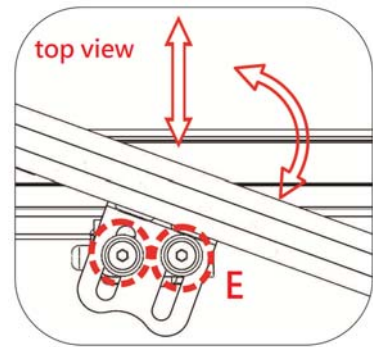

Figure 5-136
5.3.11.7 Use the #4 Allen Key Wrench to loosen the screws E. The hip support pad can be rotated or moved inwards or outwards. Re-tighten all screws. (Figure 5-136)